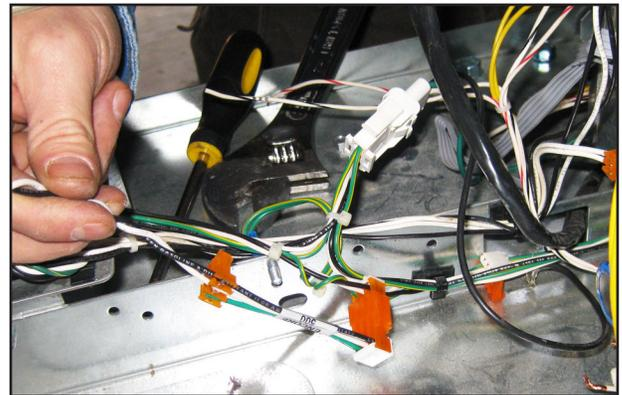

Figure 4: Power Distribution Wires
6. Find power harness kit part number, 600-0165. Find the Gilbarco power harness as shown in figure 4 of the Parts List. Remove tie-wraps and uncoil.